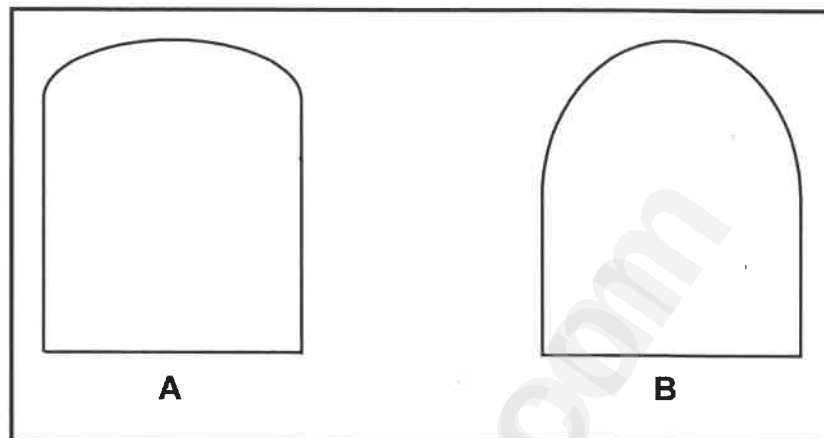

FIGURE 5.2
- D sole plate and the natural ground level. (1)
- 5.2 **Downloaded from eduresourceza.com** FIGURE 5.2 below shows the shapes of two arches for which centering must be made. Study the pictures and answer the questions that follow.